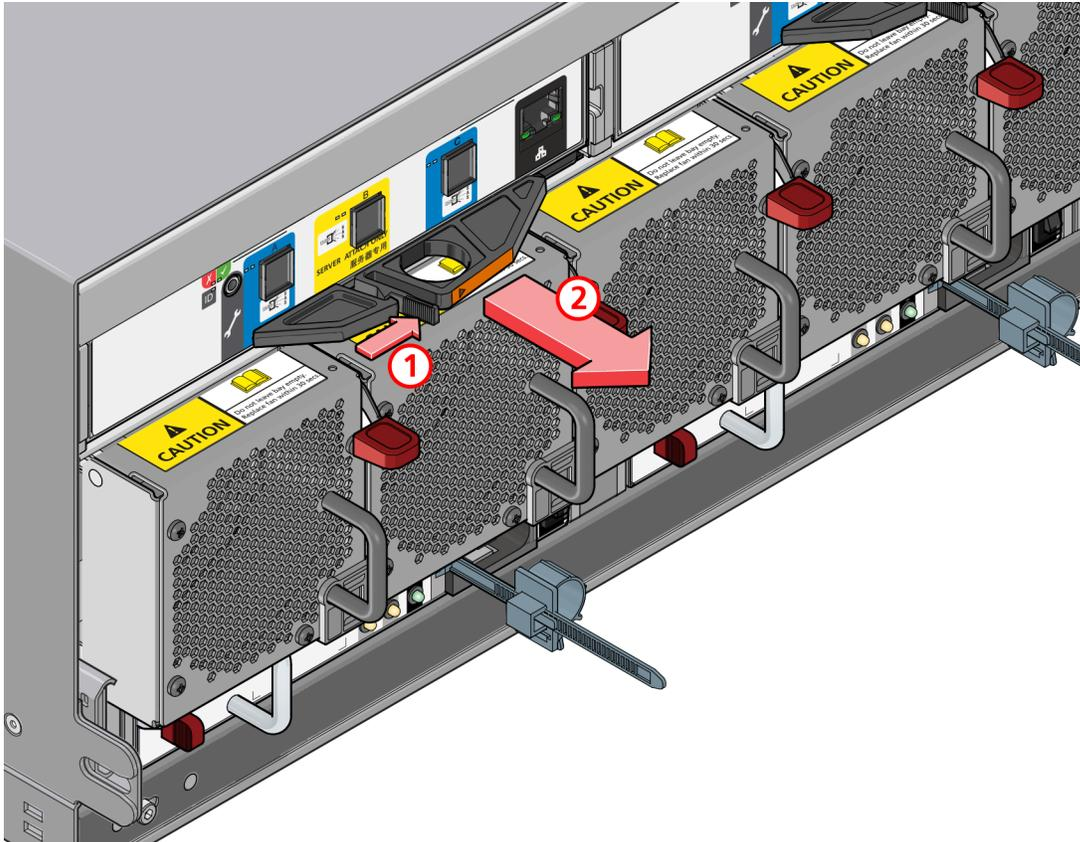
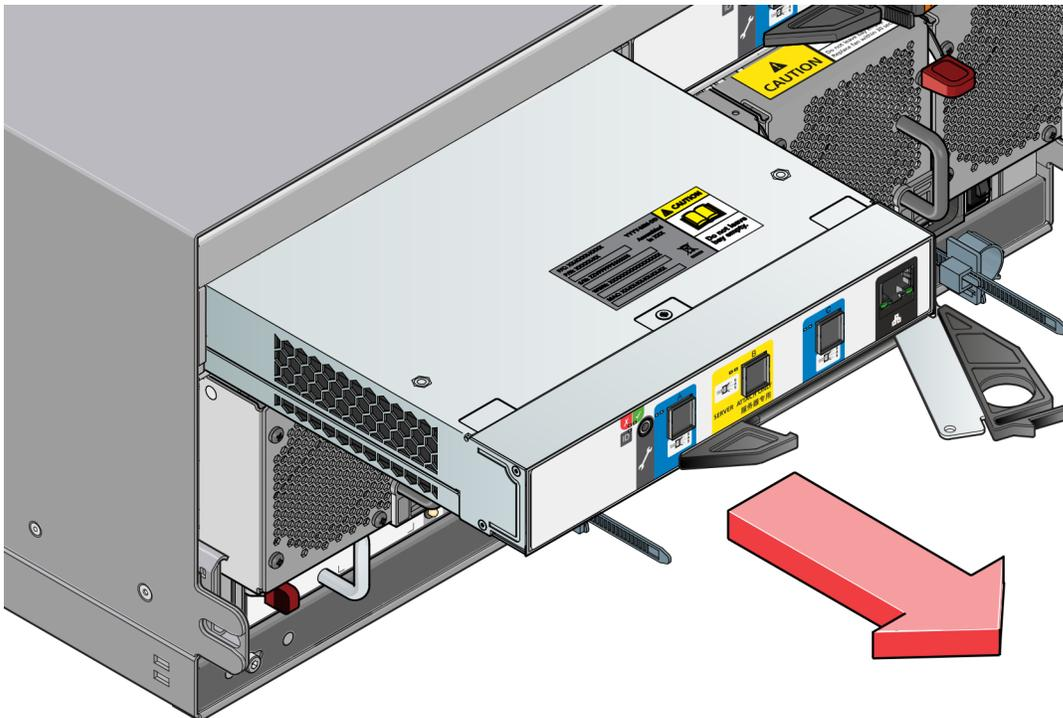

Figure 104. Removing an ESM (1)
Figure 105. Removing an ESM (2)
3. As shown in Figure 104 “Removing an ESM \(1\)” on page 95 and Figure 105 “Removing an ESM \(2\)” on page 95, pinch the latch on the module and pull the handle toward you (1). This will lever the module out of its connector on the midplane.
4. Pull the module out of the enclosure (2).